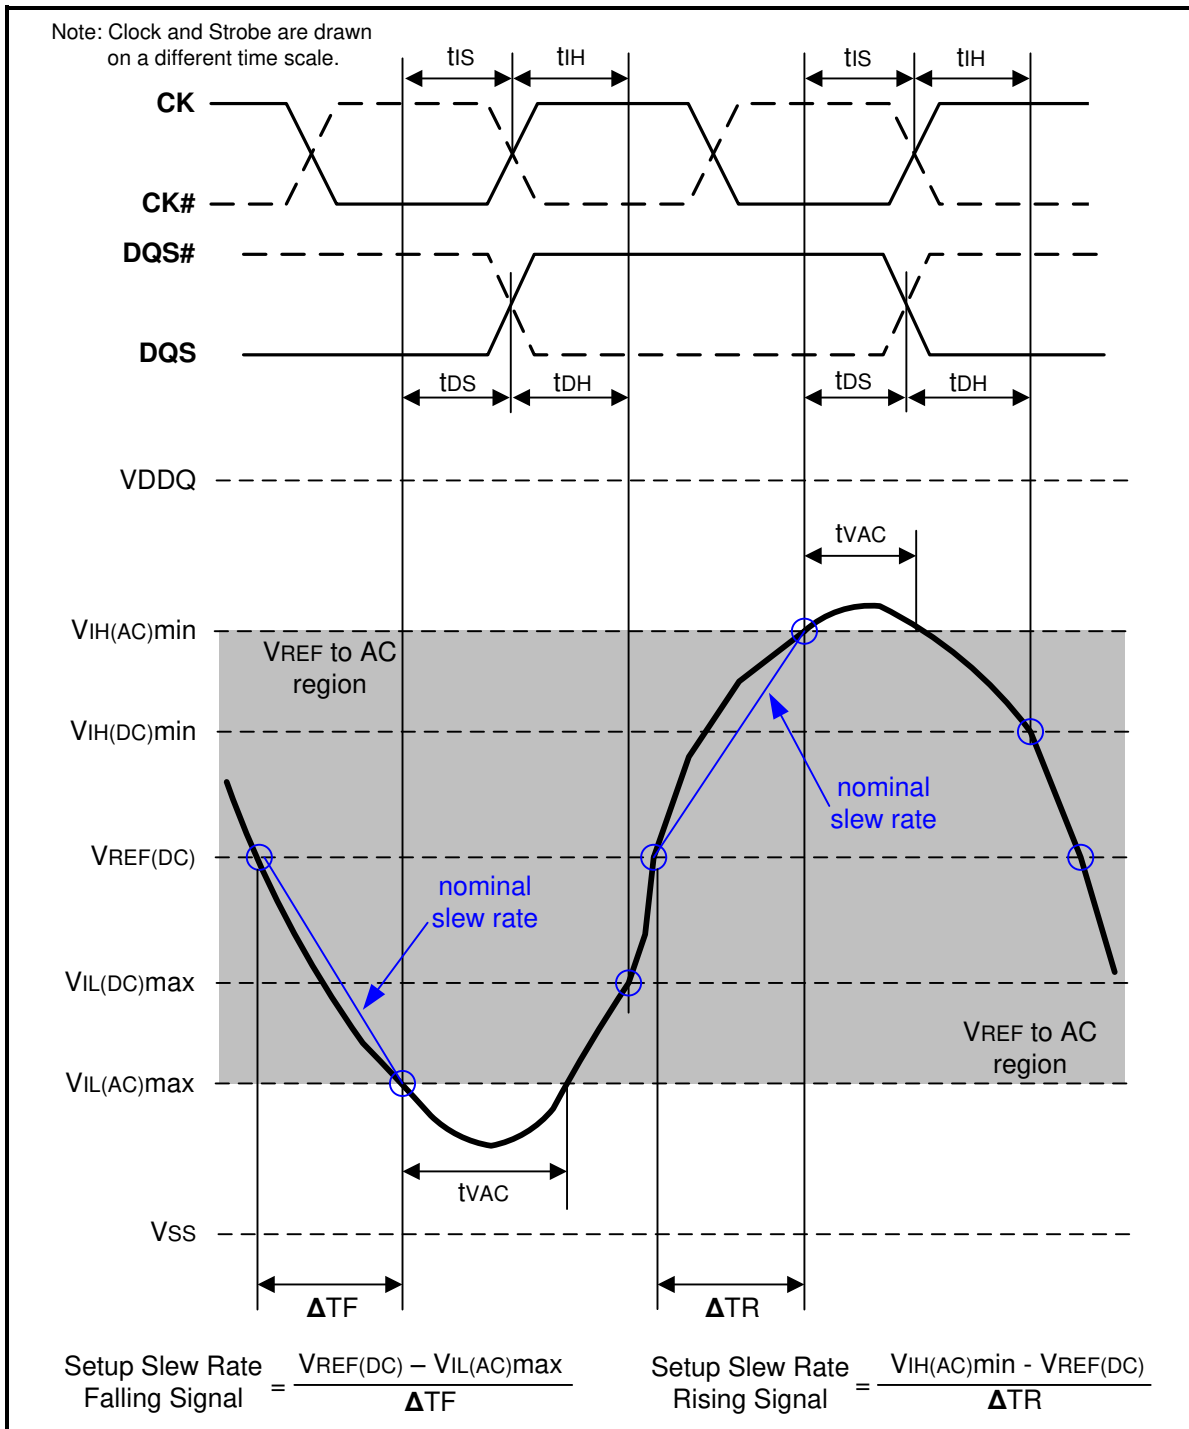
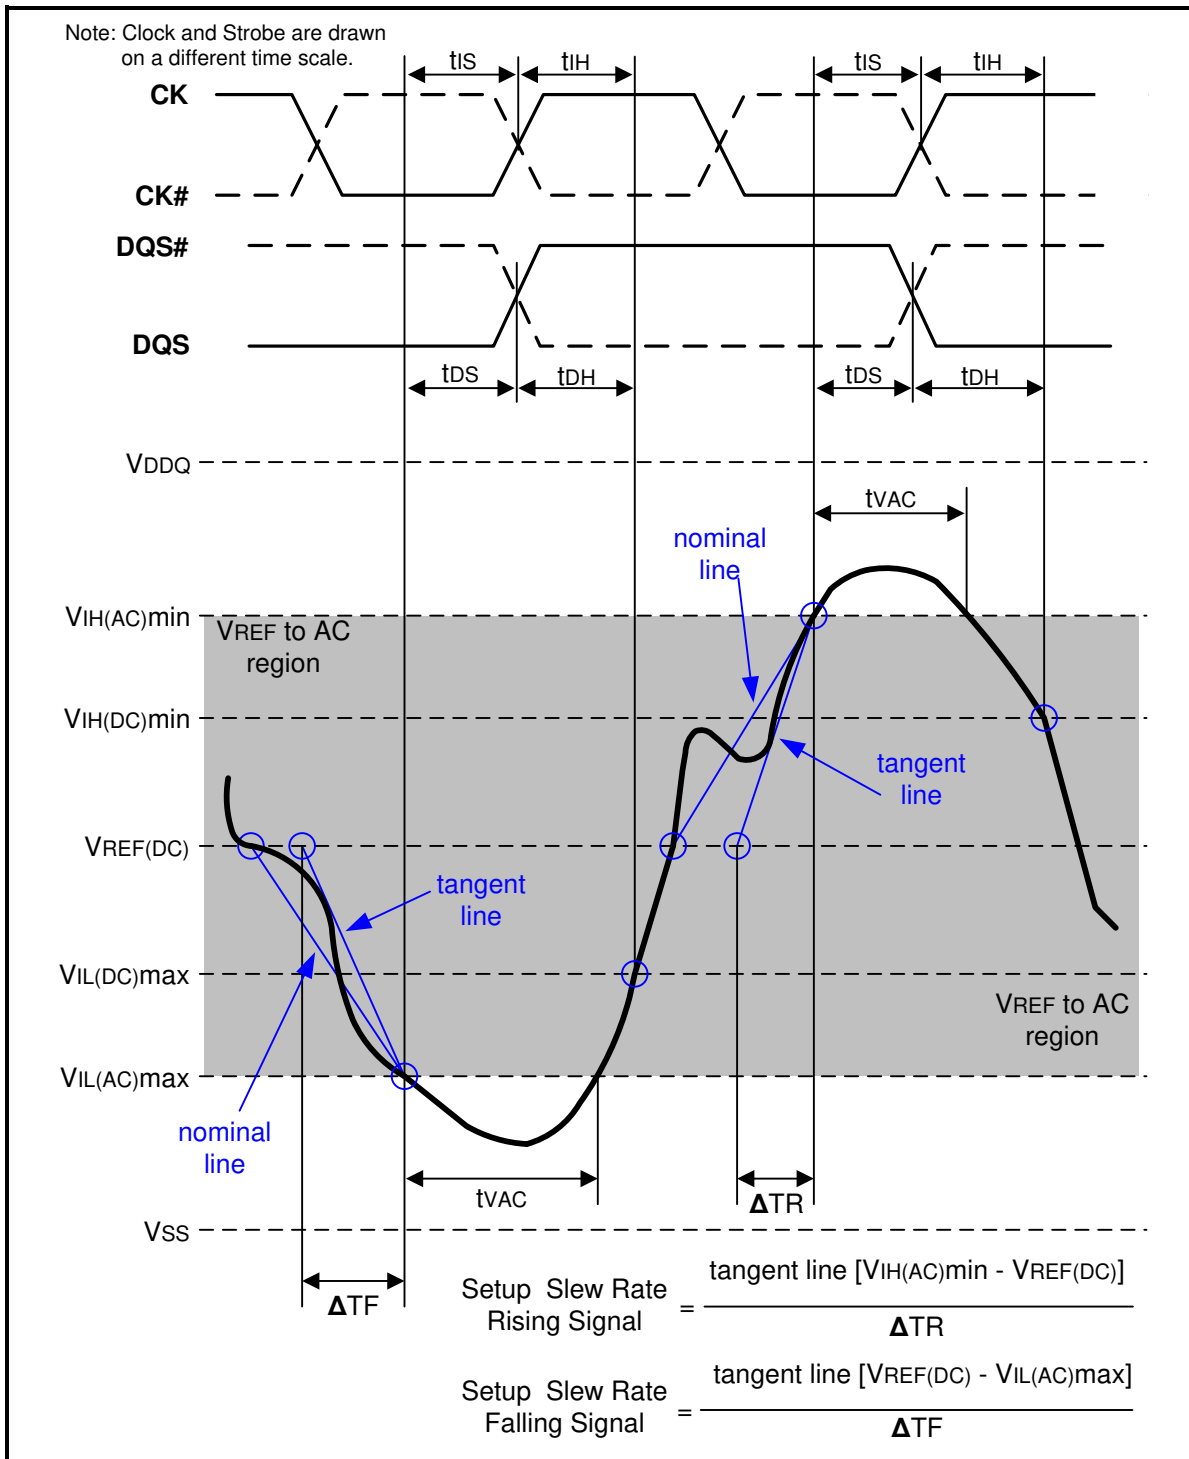

Figure 107 – Illustration of nominal slew rate and tvac for setup time tds (for DQ with respect to strobe) and tis (for ADD/CMD with respect to clock)
Figure 109 – Illustration of tangent line for setup time tDS (for DQ with respect to strobe) and tIS (for ADD/CMD with respect to clock)
Setup (t_{IS}) nominal slew rate for a rising signal is defined as the slew rate between the last crossing of $V_{REF(DC)}$ and the first crossing of $V_{IH(AC)min}$. Setup (t_{IS}) nominal slew rate for a falling signal is defined as the slew rate between the last crossing of $V_{REF(DC)}$ and the first crossing of $V_{IL(AC)max}$. If the actual signal is always earlier than the nominal slew rate line between shaded 'VREF(DC) to AC region', use nominal slew rate for derating value (see Figure 107). If the actual signal is later than the nominal slew rate line anywhere between shaded 'VREF(DC) to AC region', the slew rate of a tangent line to the actual signal from the AC level to $V_{REF(DC)}$ level is used for derating value (see Figure 109).
Setup (tDS) nominal slew rate for a rising signal is defined as the slew rate between the last crossing of VREF(DC) and the first crossing of VIH(AC)min. Setup (tDS) nominal slew rate for a falling signal is defined as the slew rate between the last crossing of VREF(DC) and the first crossing of VIL(AC)max (see Figure 107). If the actual signal is always earlier than the nominal slew rate line between shaded 'VREF(DC) to AC region', use nominal slew rate for derating value. If the actual signal is later than the nominal slew rate line anywhere between shaded 'VREF(DC) to AC region', the slew rate of a tangent line to the actual signal from the AC level to VREF(DC) level is used for derating value (see Figure 109).